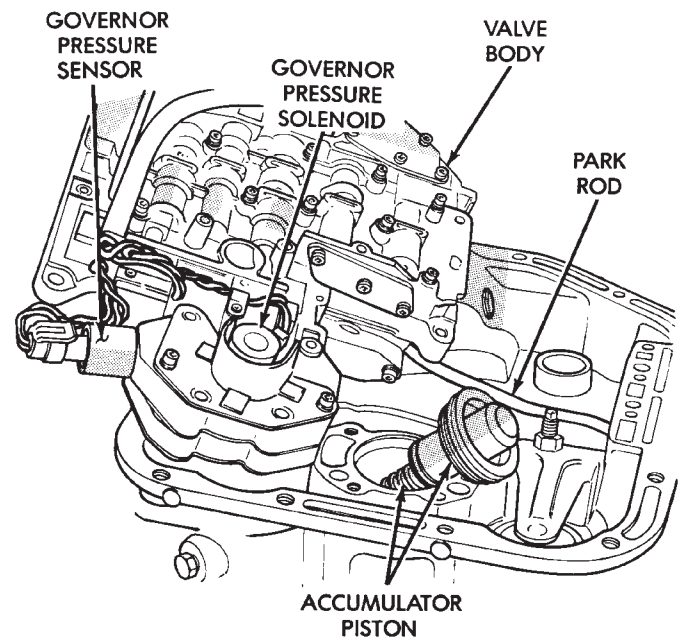

Fig. 11 Valve Body Removal
(16) Remove valve body assembly. Push valve body harness connector out of case. Then work park rod and valve body out of case (Fig. 11). **Exercise care**
(17) Remove accumulator piston and inner and outer springs (Fig. 11).